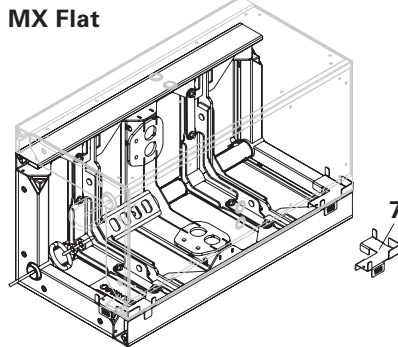

Fig. A1.06a
- two shaft corners: install stacking aids on the corners at the top and bottom, (Fig. A1.06a)